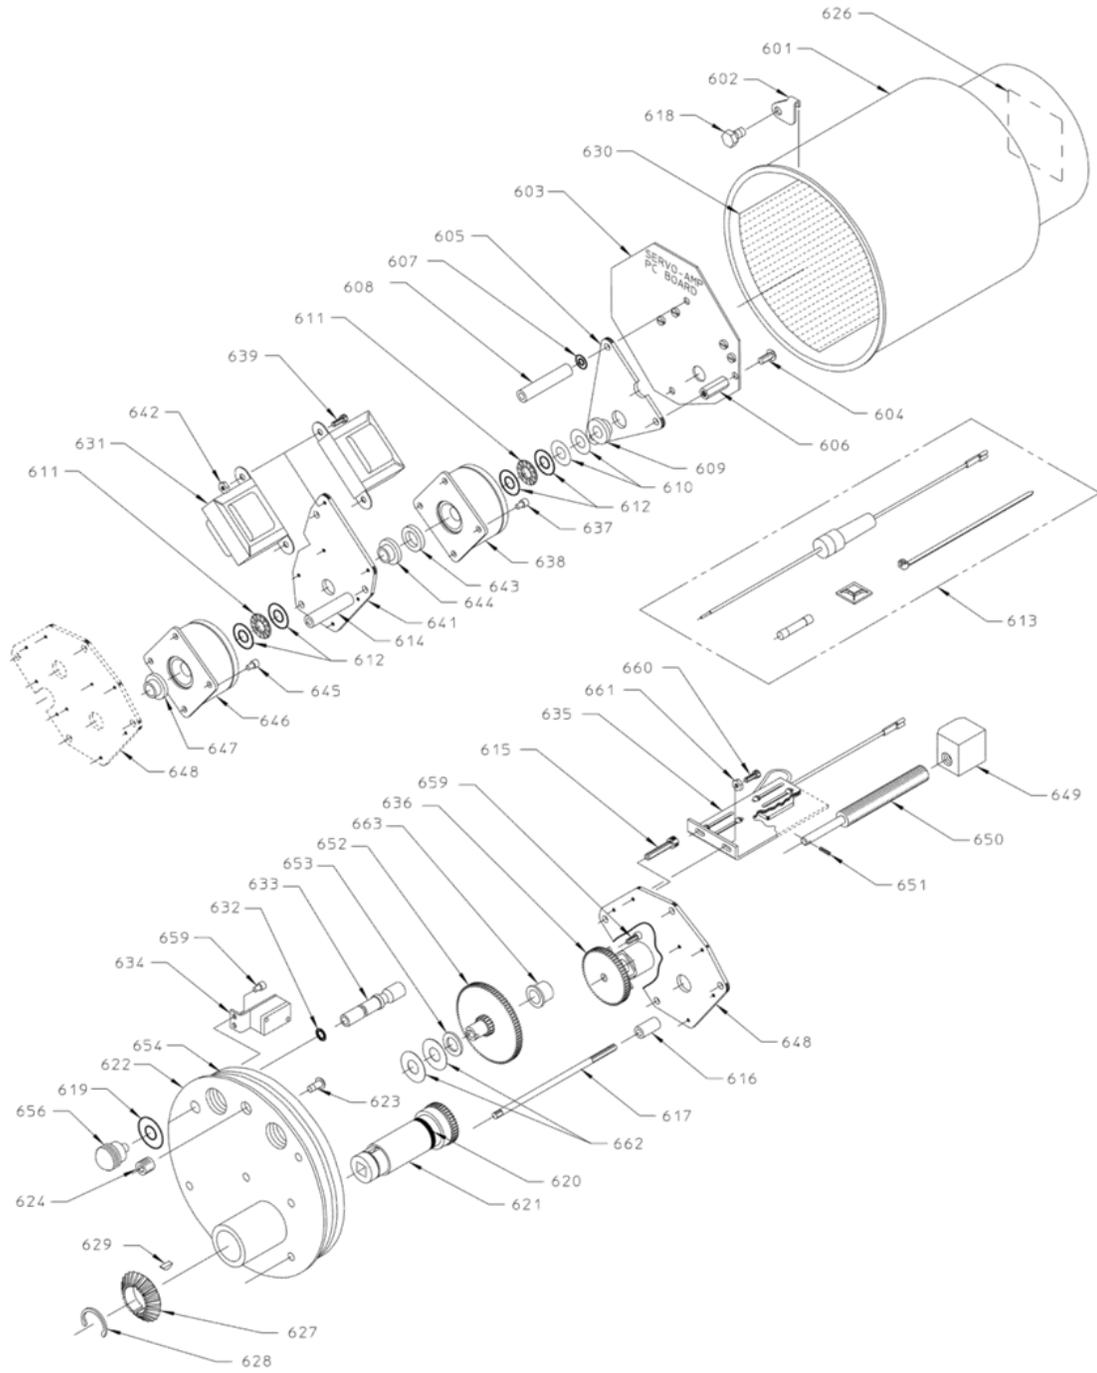

Figure 6
1. Check the axial air gaps between the mating halves of the brake and clutch assemblies, Items #638 and #646 on Figures 6 and 7. The gap specifications are 0.010-0.040 inches.
2. If either brake drags without being energized and the gap is less than 10 mils, equally shim all three spacer sleeves, Items #608, to increase the air gap to the specified range. Refer to Figures 6 and 7. Item 607 denotes shim location on the illustrations, but as a spare part. It consists of a pack of six 20-mil shims and twelve 5-mil shims.
(Reference Figure 6)